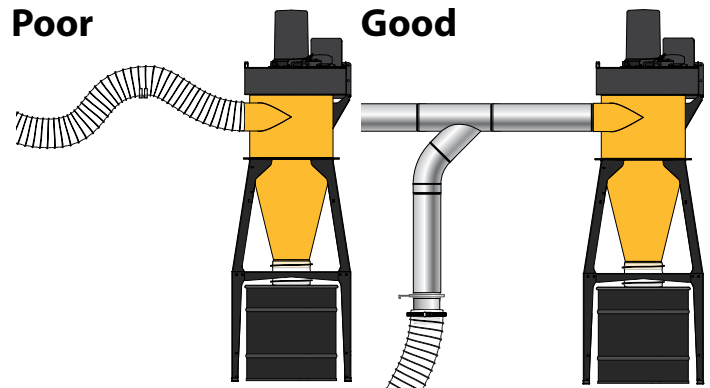

FIG. 31a
- Manage your hose lengths so that each tool is connected to the drop but has enough room to move a few feet without pulling the hose off [FIG 31a].